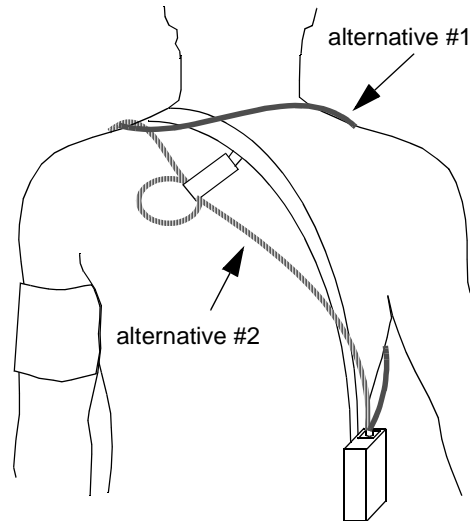

Figure 1-4: Hose Placement
6. Lead the hose up the arm with the cuff and place it across the back of the patient. Drape the hose so it does not cause the patient discomfort and is not pinched shut by too tight a radius. *Figure 1-4* displays the most common positions for the cuff hose.